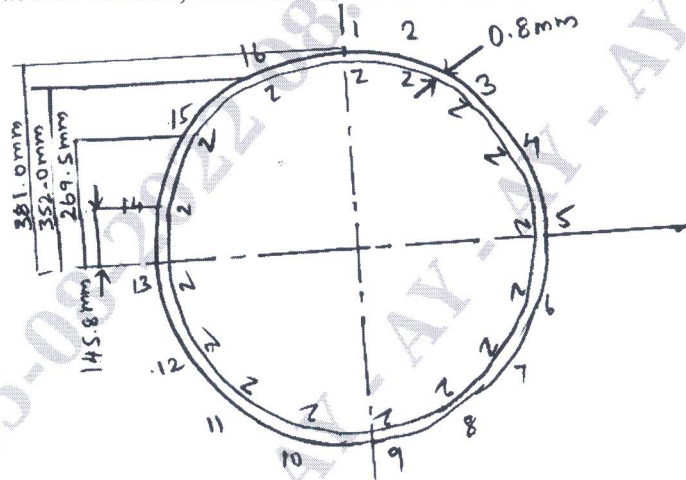

Fig. Q10 (b)
- b. The fuselage of a light passenger carrying aircraft has the circular cross section shown in Fig. Q10 (b). The cross sectional area of each stringer is  $100 \text{ mm}^2$  and the vertical distances given in Fig. Q10 (b) are to the mid-line of the section wall at the corresponding stringer position. If the fuselage is subjected to a bending moment of  $200 \text{ kNm}$  applied in the vertical plane of symmetry, at this section, calculate the direct stress distribution. (10 Marks)